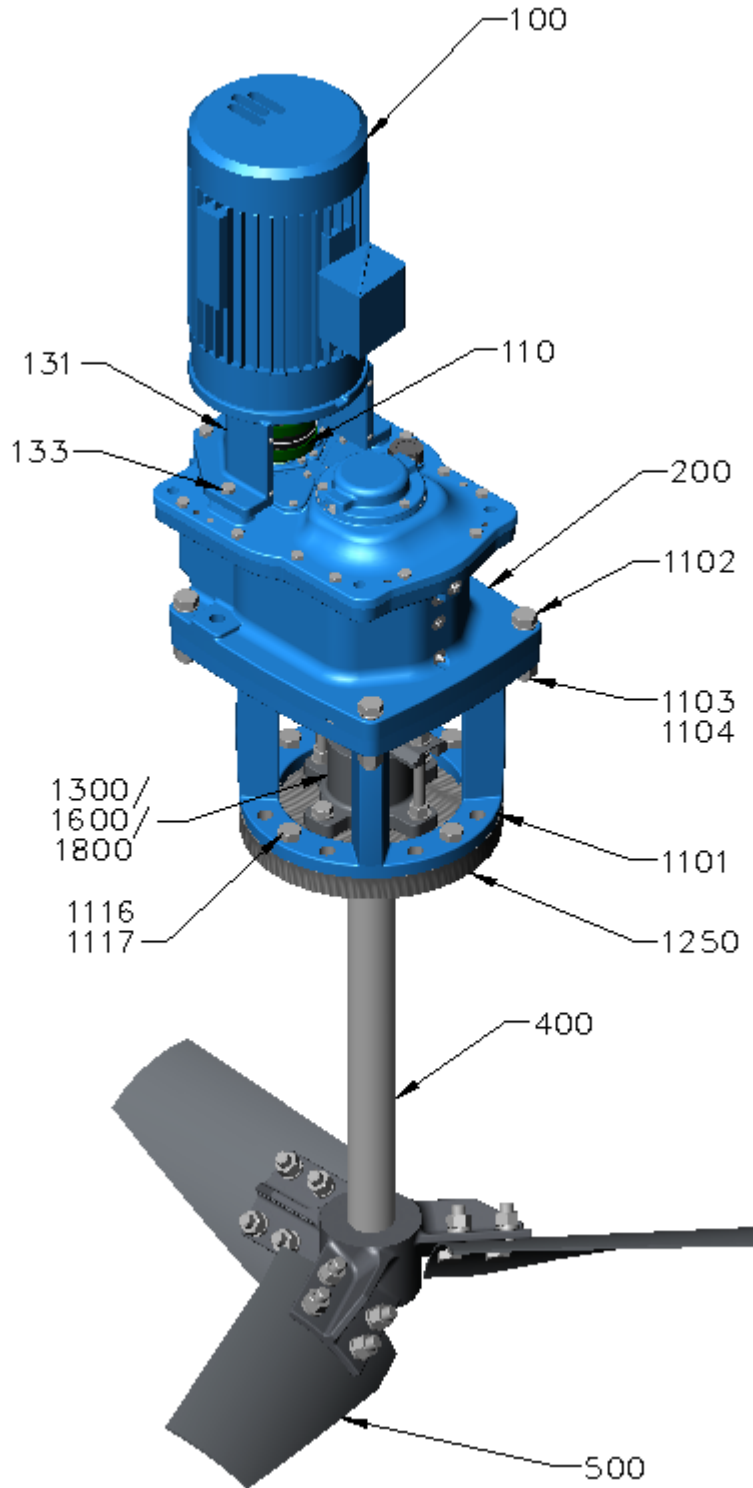
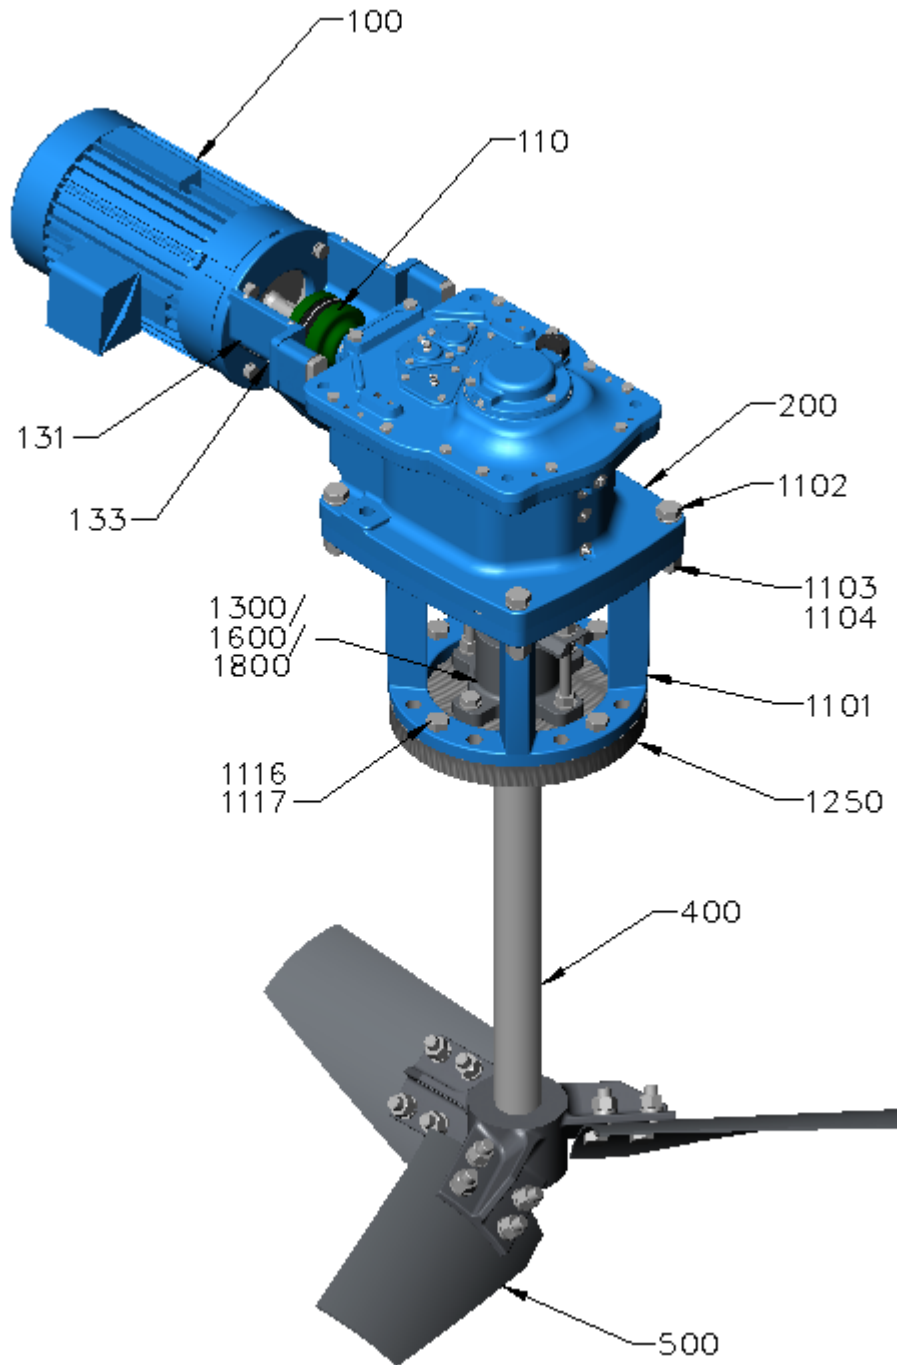
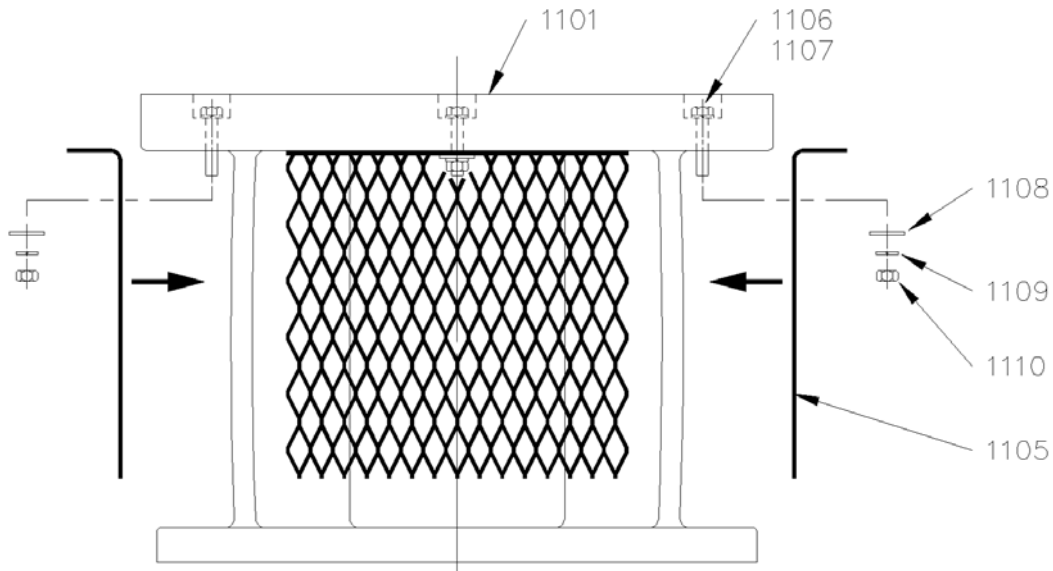
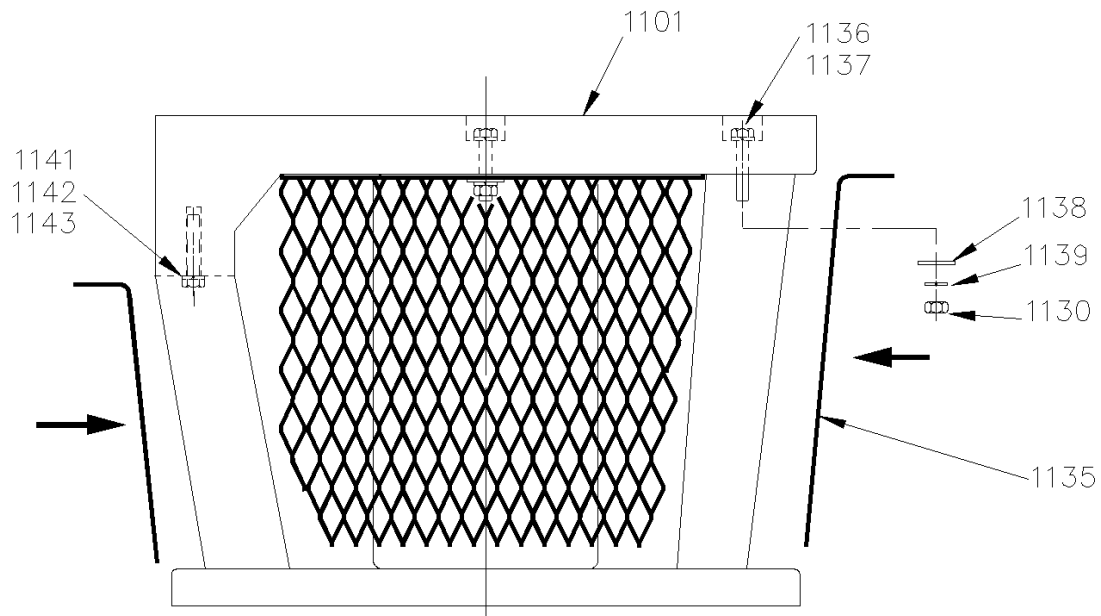

Figure 3. Model 20 GTA, GTL, GTNT Agitator Assembly
Figure 4. Model 20 HTA, HTL, HTNT Agitator Assembly
Figure 10. Handhole Cover Installation (case sizes 21 and 22)
Figure 11. Handhole Cover Installation (case size 23)
3. Install handhole cover bolts, lockwashers [1106, 1107] into the pedestal [1101]. Refer to Figure 10 and Figure 11, page 29. Assemble the pedestal to mounting flange [1251] using bolts and lockwashers [1116, 1117] (see Figure 3 or Figure 4). Torque bolts to value shown in the APPENDIX, Page 96. Install gear drive support pedestal/mounting flange assembly to vessel nozzle, along with the gasket and fastener set furnished by customer (on stud mounted units, studs [1258] are supplied by Chemineer).